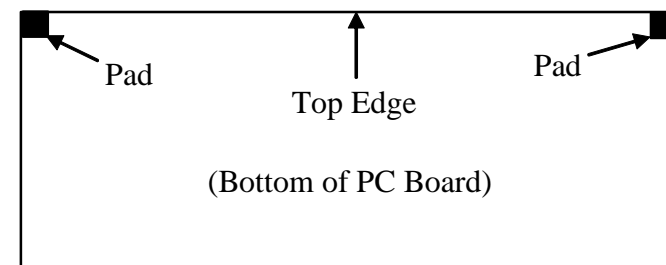

Figure 5-12
- Attach two thin, 1/4" (6.4 mm) self-adhesive rubber pads to the bottom side of the Front Panel board in the positions indicated in Figure 5-12. The pads should be placed as close as possible to the corners, but should not hang over on either edge. These pads establish the correct spacing for the Front Panel board.